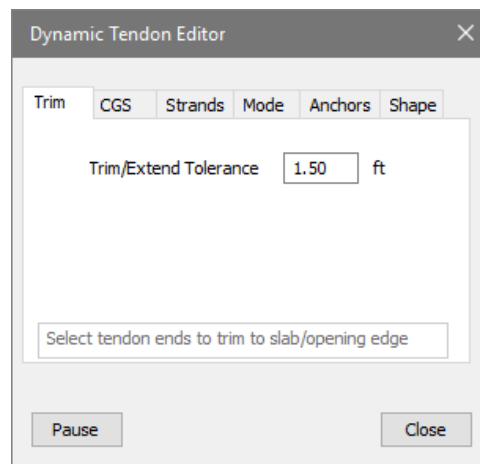

Figure 9-46
- Go to *Tendon* → *Modify* and click on the *Tendon Editor*  icon to bring up the Dynamic Tendon Editor window shown in **FIGURE 9-46**.